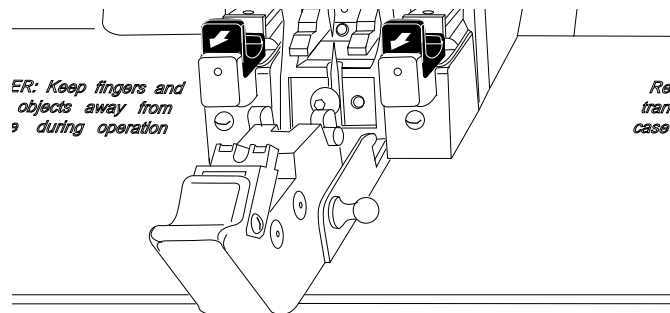

Figure 9
4.2. Open the fiber coating clamps and light tower (Figure 9)